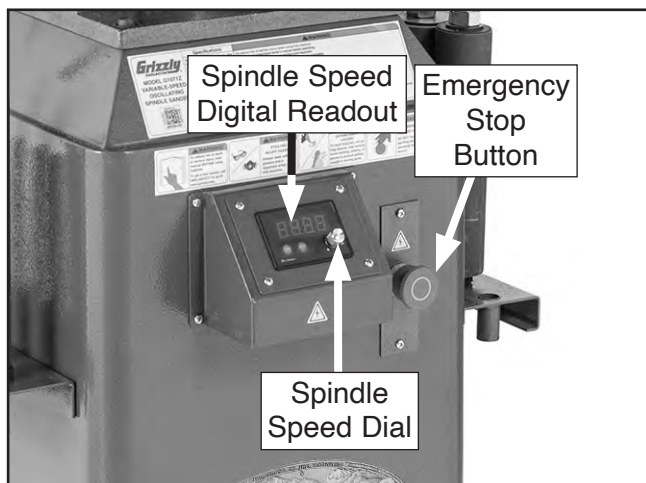

Figure 5. Location of Emergency Stop button, spindle speed dial, and spindle speed digital readout.
2. Press Emergency Stop button in (see **Figure 5**).
3. Turn spindle speed dial all the way counter-clockwise (see **Figure 5**).
4. Connect machine to power by inserting power cord plug into a matching receptacle. Spindle speed digital readout (see **Figure 5**) will illuminate.